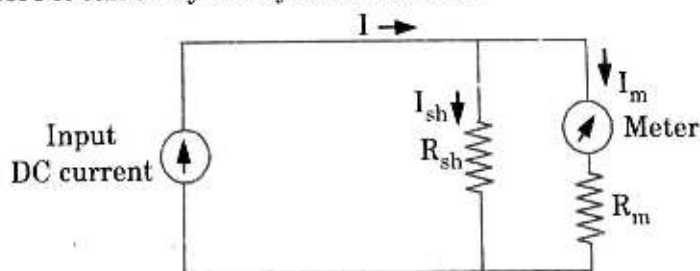

Fig. 1.25.1.
1. A DC ammeter consists of a PMMC instrument and low resistance shunt as shown in Fig. 1.25.1.